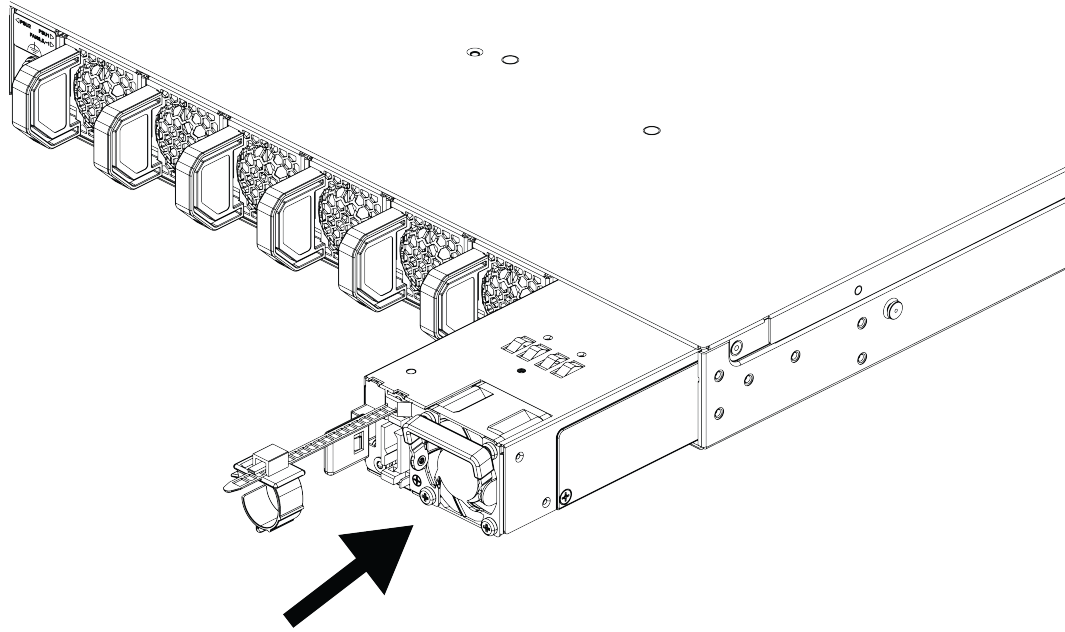

Figure 35: Replace an 800 W DC Power Supply
6. Carefully slide the power supply all the way into the power supply bay until the latch snaps into place, as shown in Figure 35.